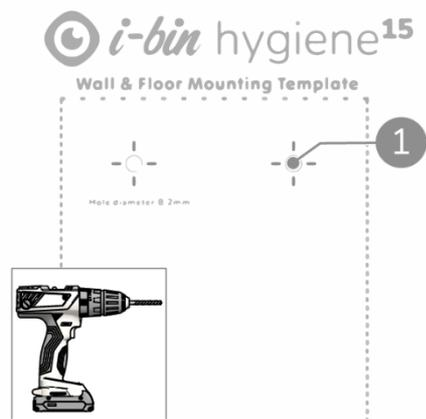

Figure 13
Mark the four holes (pos. 1, Figure 13) on the template with a hammer and a nail on the wall. Drill the holes with a drill bit $\text{\O}6$ mm (1/4"). Depth 40 mm (1 3/8").